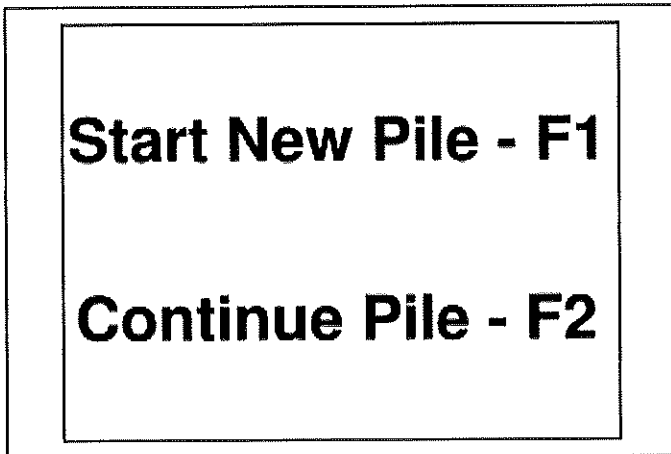

Figure 75
1. To continue a previous pile press screen F2 or [F2] (Figure 75).